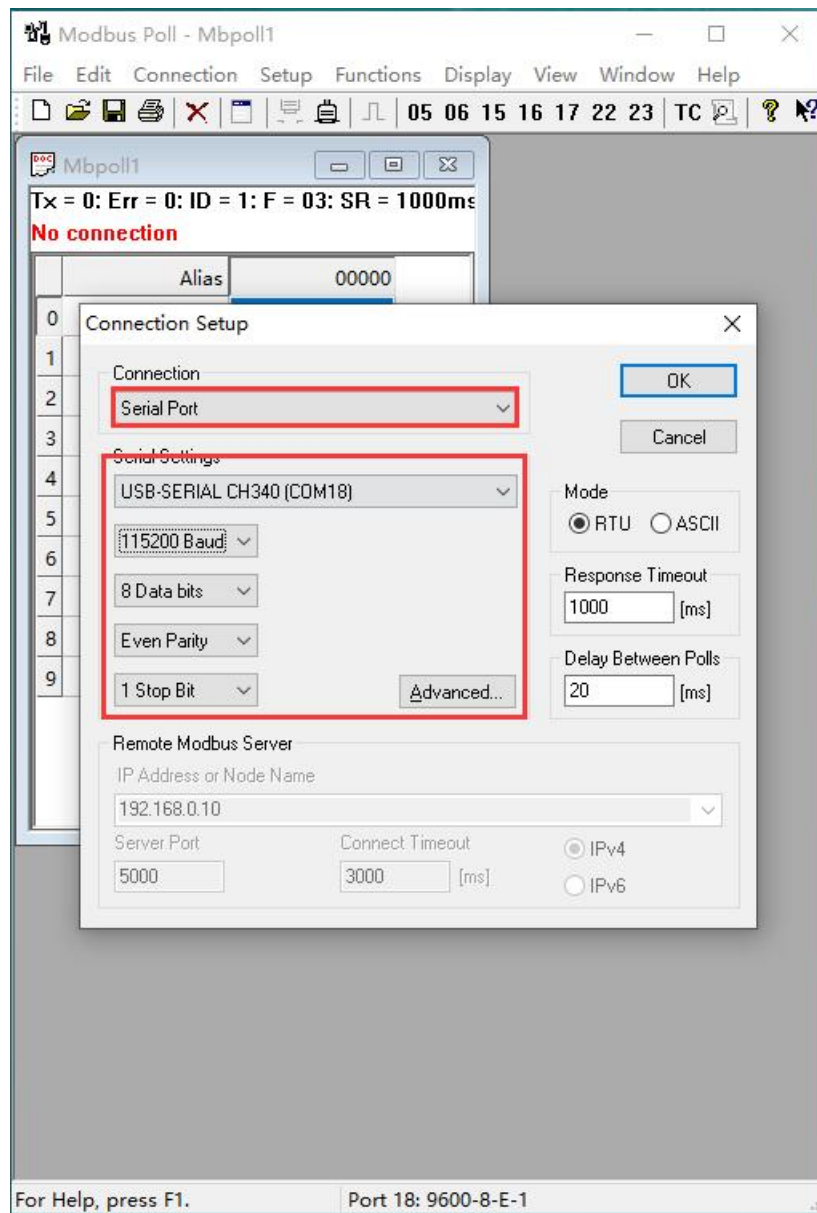

Figure 6-31 MODBUS \_ RTU Host Parameter Settings
4) Click "Connection" to create a connection, and the setting parameters of MODBUS \_ RTU are shown in Figure 6-31.